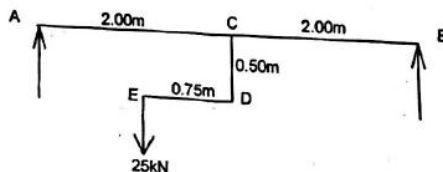

Fig. Q. 12(b)(i)
- (b) (i) Construct the SFD and BMD for the beam shown in fig. Q. 12(b)(i). (6)